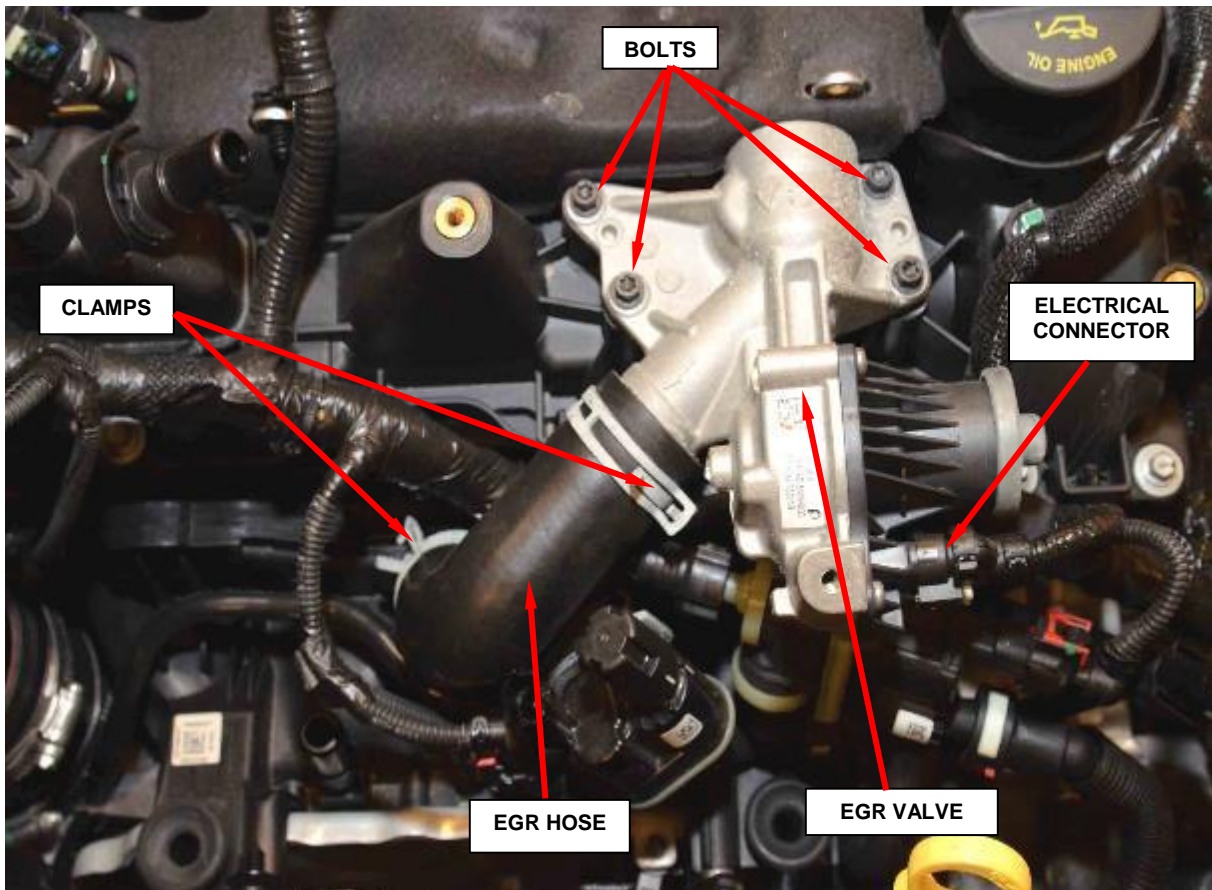

Figure 9 – EGR Hose and EGR Valve
12. Remove the constant tension or worm gear clamps at the EGR hose to the intake manifold joint and EGR valve (Figure 9).
13. Disconnect EGR valve electrical connector (Figure 9).
14. Remove and save the four EGR valve bolts (Figure 9).